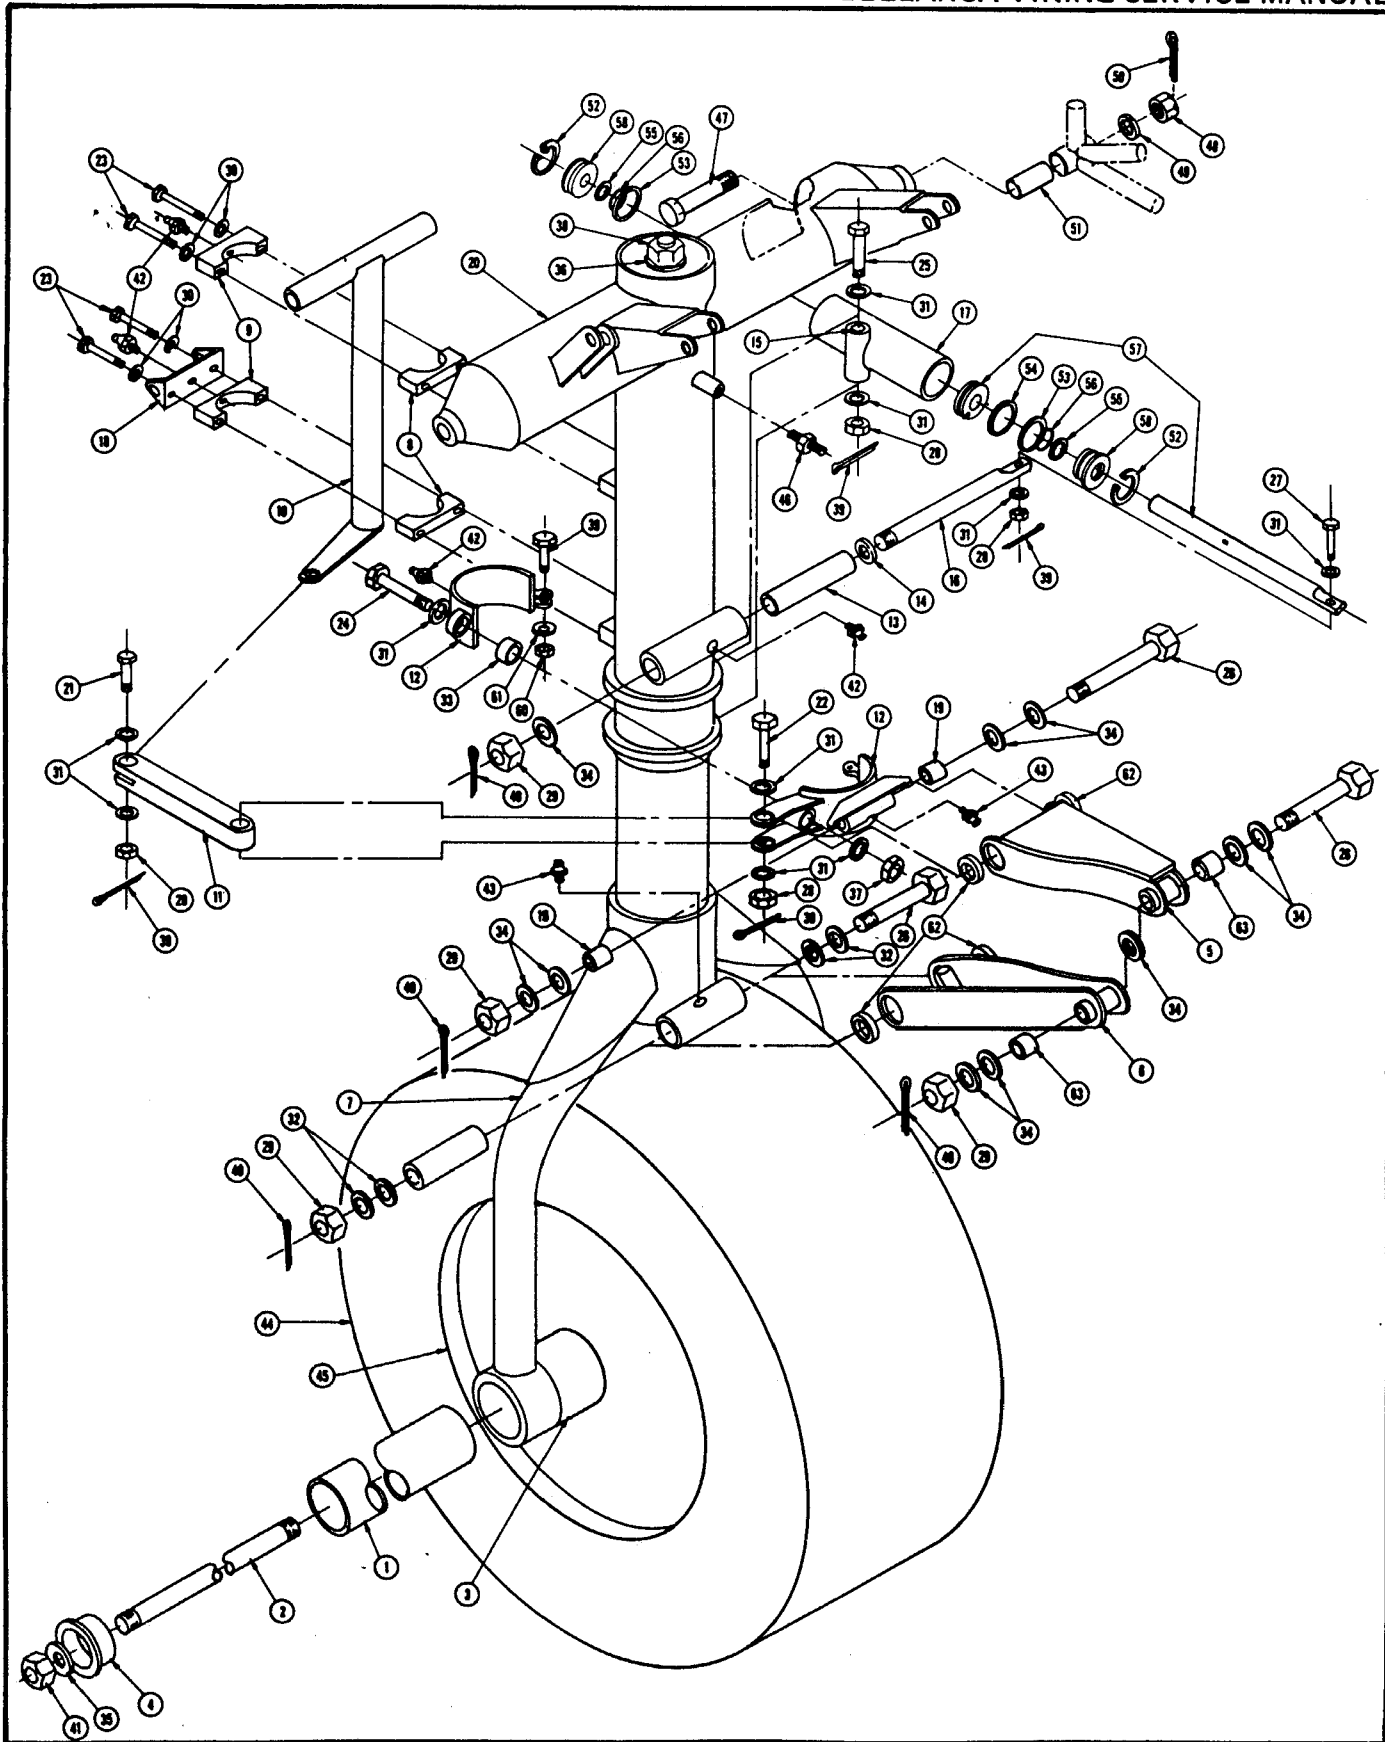

Figure 7-11. Nose Gear Installation, Aircraft Serial Numbers 79-30906 and above.
(1) Disconnect the steering rods from the torque tube (10, Figure 7-11).
i. On Aircraft Serial Numbers 79-30906 and above, remove the two pivot bolts (47, Figure 7-11).
Legend for Figure 7-11